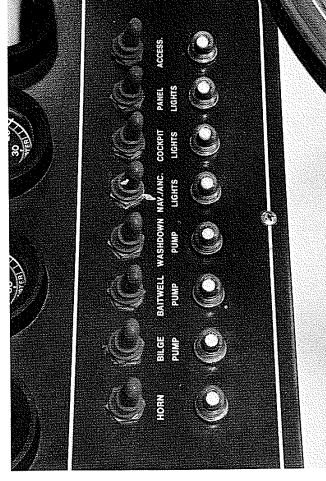

Figure 16
6. Test all switches on the accessory panel. See figure 16. Make sure the switches activate the equipment they control, and all equipment is in good operating condition.